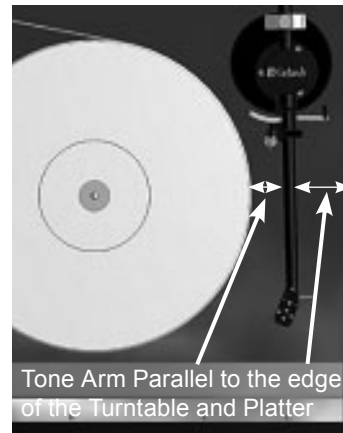

Figure 31
3. Release the Tone Arm from the rest and place it on a record and check to see if the Tone Arm is now parallel. Also check to make sure the Tone Arm is parallel to the record platter and the right side of the turntable base. Refer to figure 31.